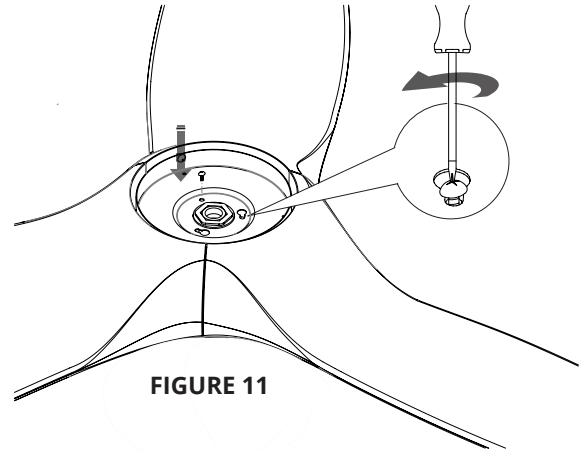

FIGURE 11
1. Remove one of the three mounting plate screws from the mounting ring and loosen the other two screws (Do not remove) (Fig. 11).